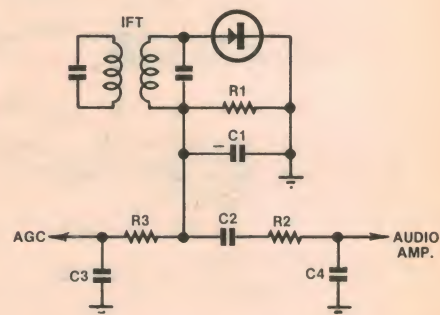

Fig. 2: Basic circuit configuration for a diode detector in a superhet receiver.
Fig. 2 shows a diode detector configuration which is fairly typical of what has been used in both valve and solid-state AM receivers — usually superhet receivers. (A particular polarity has been assumed for the diode but this does not affect the basic reasoning.)
Other components in Fig. 2 will be referred to later.
Fig. 4: Diagram (a) illustrates an input signal, unmodulated (A to C) and amplitude modulated (C to D). Diagram (b) shows the current pulses through the diode, which charge the storage capacitor (C1 in Fig. 2) thereby DC shifting the RF input waveform as in diagram (c). The voltage across C1 can be filtered to isolate the audio signal, and also the DC component for automatic gain control.
relationships in a typical diode detector circuit (eg Fig. 2) plotted against time.
If this signal was to be applied to a detector circuit (eg Fig. 2) the first few positive-going half-cycles would cause heavy uni-directional current pulses through the diode, through the secondary of the IF transformer, and through capacitor C1, building up across it a charge negative with respect to chassis-earth.
In short, in the presence of an unmodulated signal, a diode detector circuit tends rapidly to reach a state of equilibrium such that the energy drawn from the tips of the positive-going half-cycles is just sufficient to maintain the charge across the bypass/storage capacitor (C1 in Fig. 2).
Referring back to Fig. 2, the DC component can be blocked by coupling capacitor C2, while the RF component can be attenuated by series resistor R2 and RF bypass C4. If desired, the DC component can be isolated and preserved for purposes of AGC (automatic gain control) by means of a long time-constant filter, R3/C3.
- (1) It assumes that the passband of the tuned circuits preceding the detector will be sufficiently wide to admit the carrier and a substantial proportion of the sidebands. To the extent that the outer sidebands are attenuated — as happens in most AM receivers — the higher frequency audio components are diminished or lost, irrespective of whether we analyse the effect in terms of their absence from a "mixer" calculation, (frequency domain), or from a summed voltage waveform (time domain).
- (2) It accepts that the carrier/sideband frequency components that do pass through the selective circuits are summed at the detector into a modulated RF waveform having the general shape envisaged in the original article in our October issue, and supported by correspondents and by Dr Imrie in last month's "Forum". Viewed as a rectifier, a diode detector is sensitive only to the instantaneous applied voltage, not to the subtleties of how that voltage was arrived at.
- (3) It rationalises the too simplistic explanations of diode detectors which appear to have upset correspondent D.D. (Jan '83, page 99) — in particular the role of the storage capacitor (C1 in Fig. 2) in bridging the peaks of the cycles in an RF waveform. Fig. 4c acknowledges the storage effect of C1 but puts it into proper context.
- (4) It satisfies — for me, anyway — the observation in last month's "Forum" that it was possible to present "a straightforward explanation (in the time